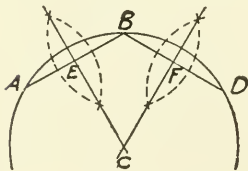

Fig. 627
30. *To find the centre of a circle of which the whole circumference, or an arc, is given* (Fig. 627).—Draw the chords AB and BD. Bisect the chord AB at E and the chord BD at F. From E and F draw lines perpendicular to AB and BD, intersecting at C. C will be the centre of the circle.
31. *Through three given points to draw an arc* (Fig. 627).—Let A, B, and D be the given points. Draw AB and BD. Bisect them at E and F. Erect perpendiculars at E and F intersecting at C. C will be the centre of the arc passing through A, B, and C. This problem is essentially the same as Prob. 30.